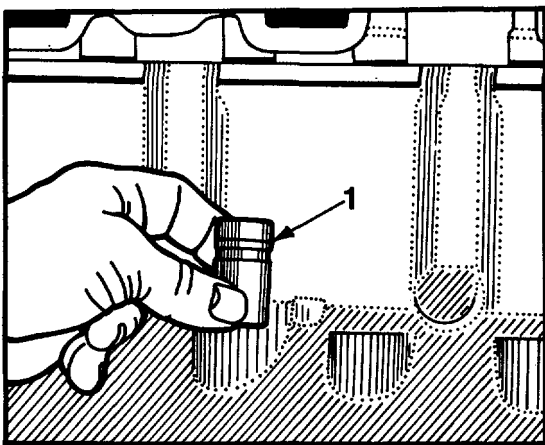

Fig. 43 Hydraulic Tappet Removal
47. Lift out all hydraulic valve lifters or tappets from the crankcase assembly, Figure 43. This can be accomplished by rotating the camshaft so the tappets are resting on the high side of the camshaft lobes. Keep the tappets in order in storage box, SE-1894, to assure cleanliness and reinstallation in their original bores.